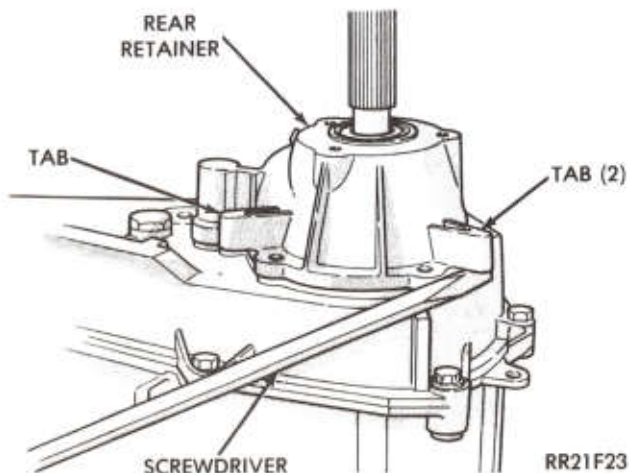

Fig. 1—Pry Rear Retainer
(3) Mark propeller shaft and transfer case yoke for assembly alignment reference.
(4) Disconnect propeller shaft. Secure shaft to the underside vehicle.
(5) Remove and discard transfer case yoke retaining nut and yoke seal washer. Use Tool C-3281 to hold yoke while removing nut. Remove yoke.
(6) Remove retainer seal (if seal or bushing is to be replaced) using suitable tool.
(7) Install a new seal, if old seal was removed.
(8) Removed speedometer gear from rear retainer.
(9) Mark rear retainer for assembly alignment reference.
(10) Remove retainer attaching bolts and remove retainer. Pry retainer with screwdrivers to remove it (Fig. 1).